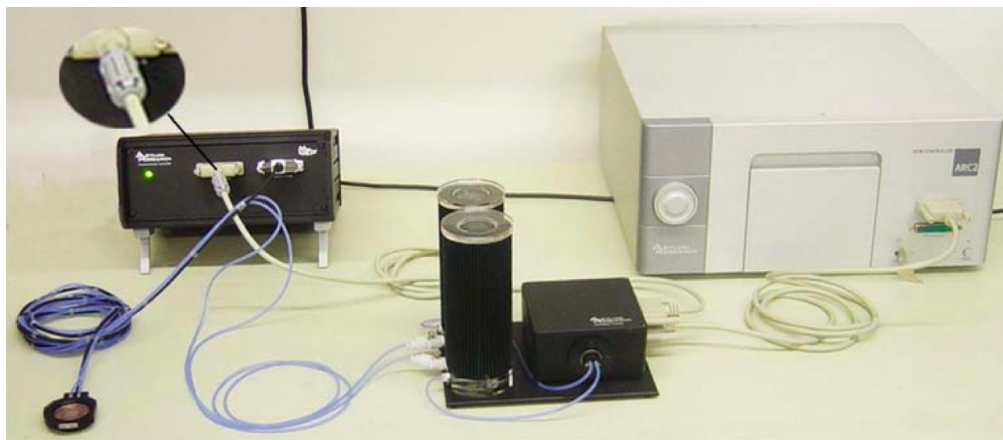

Figure 28.2.: Full setup with coolant pump, for -20 to +120C operation.
5. See Figure 28.2 on page 386 for a photo of the fully connected setup.